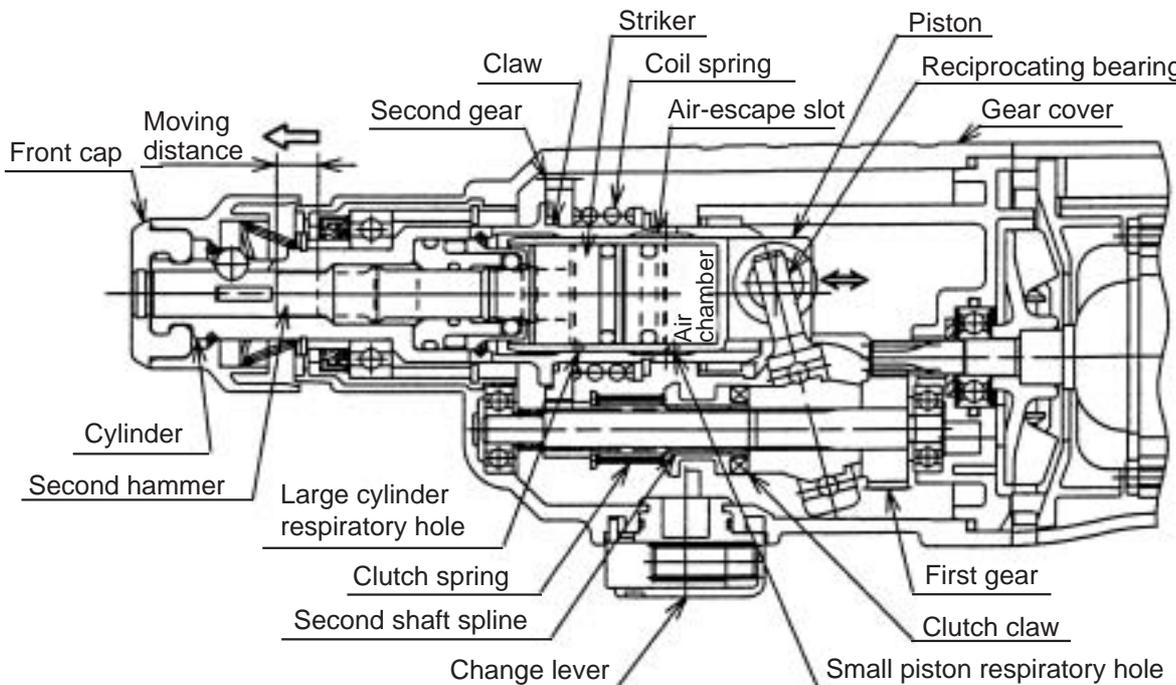

Fig. 3
The idle hammering prevention mechanism in the Model DH 22PB is different from that of conventional rotary hammers. When the drill bit is lifted from the concrete surface on completion of drilling, the second hammer moves to the position indicated by the continuous lines in Fig. 3, and the protruding (lip) portion at the tip of the striker is gripped by O-ring (C) mounted between the hammer holder and the damper holder. In this state, should the piston continue to move so that the small piston respiratory hole is blocked by the inner wall of the cylinder, the air in the air chamber will pass through the large piston respiratory hole and be released through the air-escape slot and large cylinder respiratory hole provided on the inner wall of the cylinder. Accordingly, there is no change in the air pressure within the air chamber, and movement of the striker (idle hammering operation) is prevented. The gripping force of O-ring (C) on the striker is so small in comparison with the conventional mouth system that practically no pressing force at all is required to restart the hammering operation.